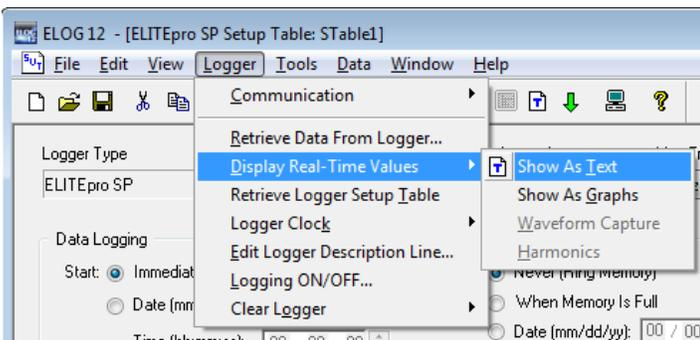

Figure 8. Check of logger configuration and installation using the Display real-time values menu
1.	On the ELOG 12 Logger menu, select Display Real-Time Values and then select Show As Text (Figure 8).